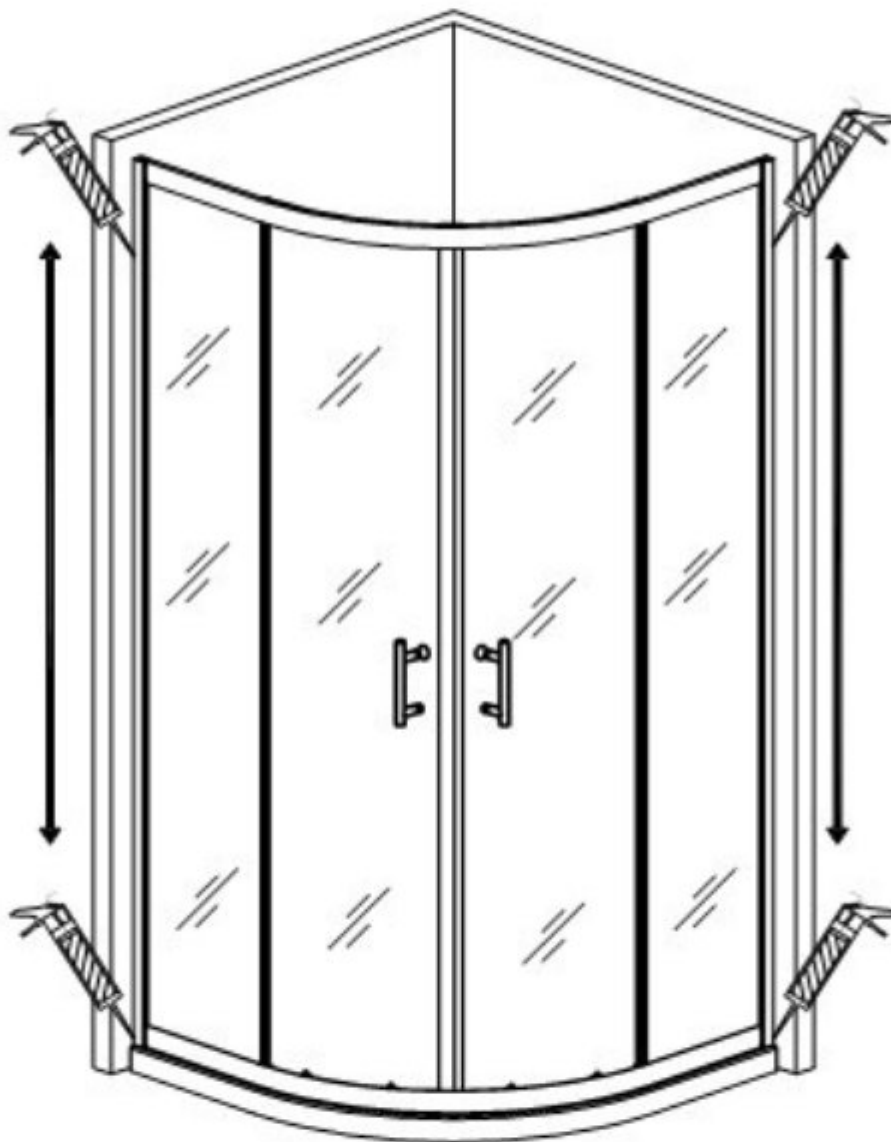

Figure 15
15. Finally, at all points connected to the wall, shower tray, floor and profiles, use silicone sealant only on the outside of the shower enclosure, as showed in figure 15.